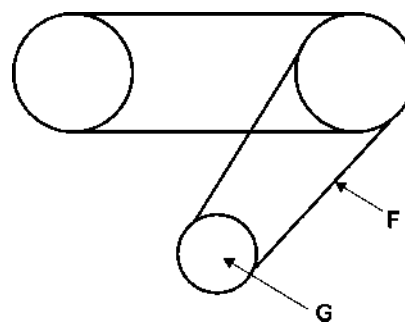

FIGURE 26
The gear box has two feed speeds. These are set by pulling out or pushing in the shift lever (D) while the machine is running. The feed speed range is shown in Figure 26.
The lowest feed speed for your planer (16.2 fpm & 20.7 fpm) can be obtained by replacing the lower (gear shaft) sprocket and the chain, Figure 26. To